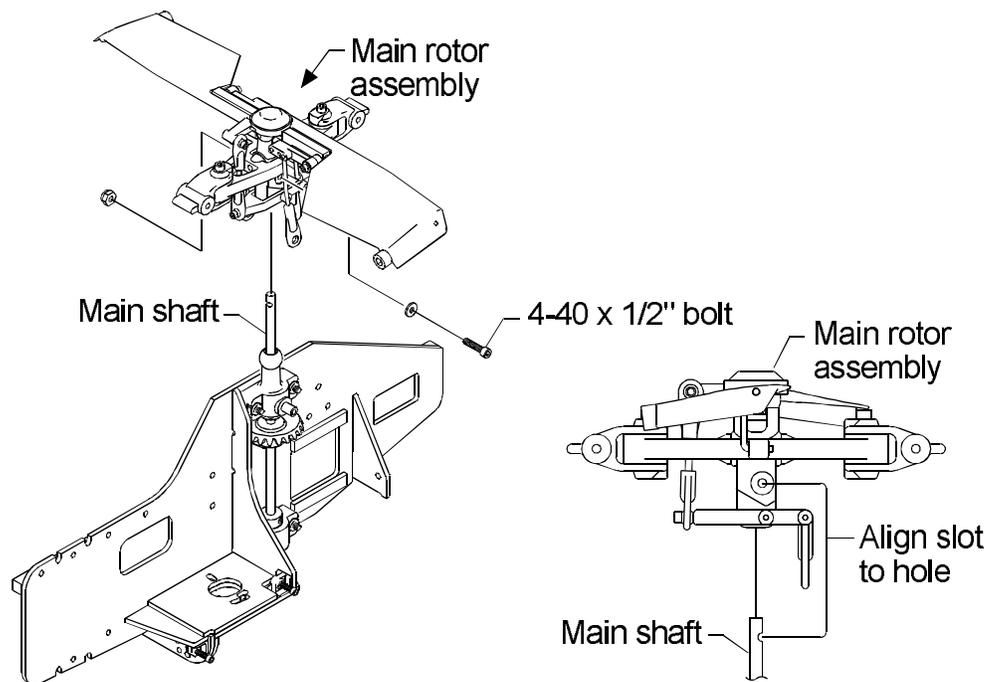

Figure 8-11.
- ❑ 23. Mount the main rotor assembly to the main shaft with a $\frac{1}{2}$ " (12.7mm) hub bolt, washer and nylock nut as shown in Fig. 8-11. If the shaft is too tight in the main rotor hub, ream the shaft hole in the hub with a $\frac{5}{32}$ " (4mm) drill bit to remove interior molding flash.